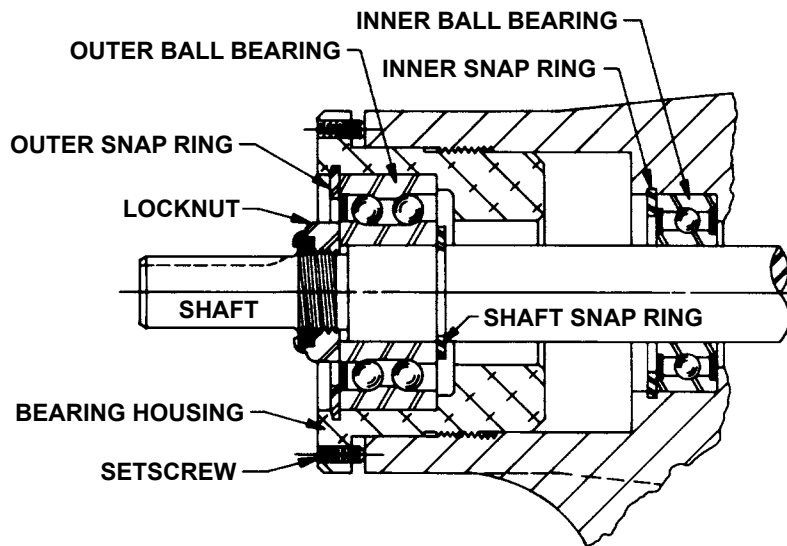

FIGURE 9 - THRUST BEARING ASSEMBLY GG, HJ AND HL SIZES
6. Insert a brass bar or piece of hardwood in the port opening and between the rotor teeth to keep the shaft from turning. Turn the locknut counterclockwise and remove locknut. See **Figure 9 or 10**, page 6.
7. Loosen the two setscrews in the face of the bearing housing and turn the thrust bearing assembly counterclockwise and remove from casing. See **Figure 9 or 10**, page 6.
8. **GG, HJ, HL:** Remove the snap ring from the shaft. See **Figure 9**, page 6.
GG, HJ, HL: Remove the outer snap ring from the bearing housing and remove the ball bearing. See **Figure 9**.
13. GG, HJ, HL: Install the shaft snap ring in groove in the shaft. See **Figure 9**, page 6.
14. Pack the lubrication chamber between the inner ball bearing and double row ball bearing in the thrust bearing assembly approximately one-half full of multi-purpose grease, NLGI #2. The thrust bearing assembly will take the remaining space. See **Figure 9 and 10**, page 6.
GG, HJ, HL: Install the ball bearing into the bearing housing with shield side toward the coupling end of the shaft. See **Figure 9**, page 6. Install the snap ring into bearing housing to retain ball bearing. This snap ring has a tapered edge to fit tapered groove in bearing housing. The tapered edge is located away from the ball bearing.
See **Figures 9 and 10**.